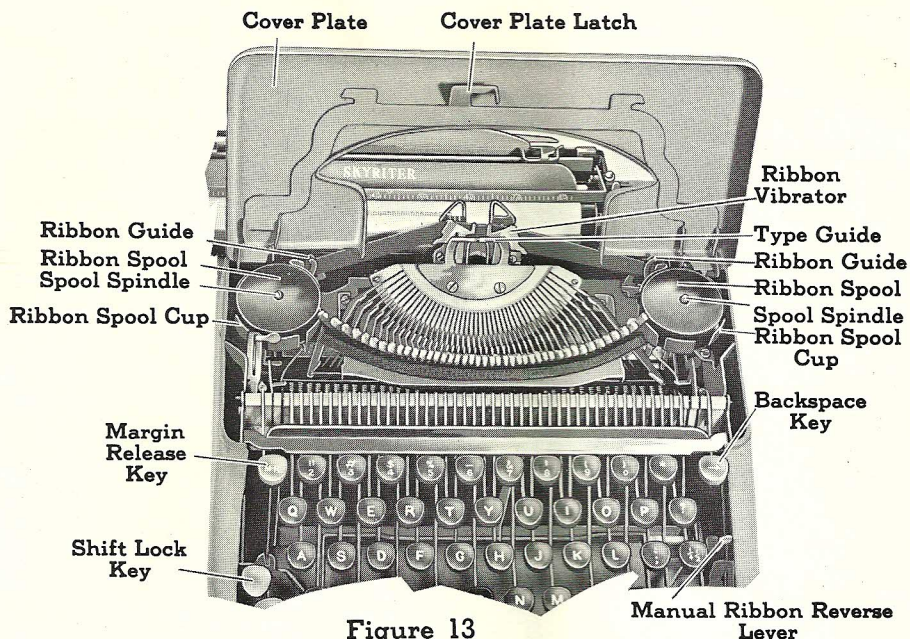

Figure 13
**MOVE THE CARRIAGE TO THE EXTREME LEFT.** Swing the cover plate up to raised position as in Figure 13. Save one old spool for use on the left. Be sure to save the U-shaped metal clip that held the ribbon on the old spool. Place the new ribbon and spool on the right. Unwind about two inches of the new ribbon and slip the spool way down on the right hand spindle so about  $\frac{1}{8}$  inch of the spindle shows above the spool. Set the manual reverse lever in the forward position and turn the spool counter-clockwise with a little downward pressure. The ribbon must wind from the back of the spool.
Close the cover plate. Be sure it is held down by the latch shown in Figure 13.